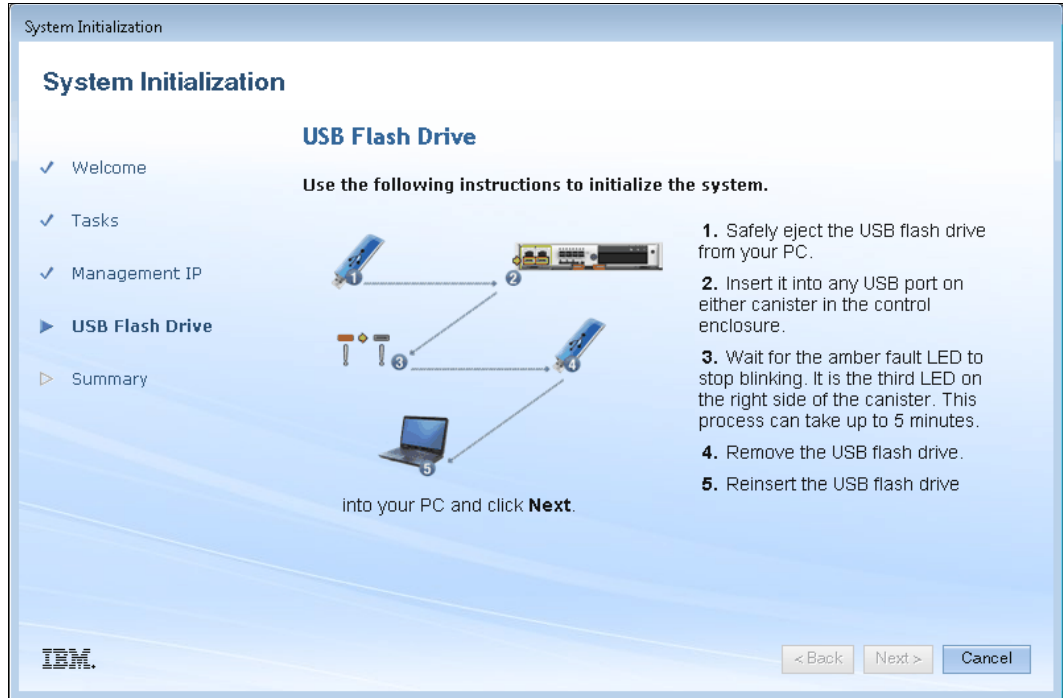

Figure 2-12 Initialization application - Finalizing the initial setup
4. Click **Apply and Next** to display the USB Flash Drive instructions (Figure 2-12).